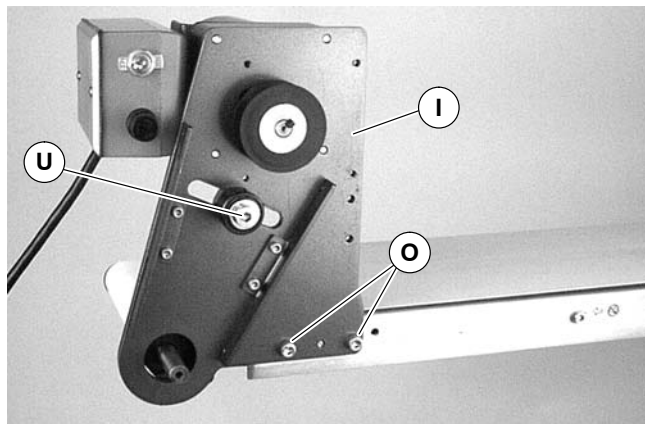
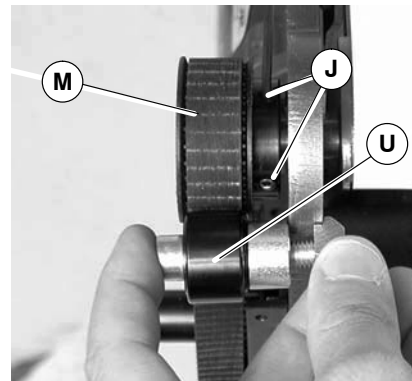

Figure 9
Figure 11
4. Attach mount assembly (I of Figure 9) with two screws (O). Tighten screws to 80 in-lb (9 Nm).
6. Wrap timing belt (M) around driven pulley (J) and drive pulley (R). Install driven pulley (J) onto conveyor shaft.
7. Remove cam bearing and spacer (U of Figure 9). Place the cam bearing and spacer (U of Figure 11) next to the driven pulley (M). Ensure the flanges of the driven pulley are aligned with the cam bearing. Tighten set screws on driven pulley (J). This will allow for proper belt alignment while conveyor is in use. Install cam bearing and spacer (U).